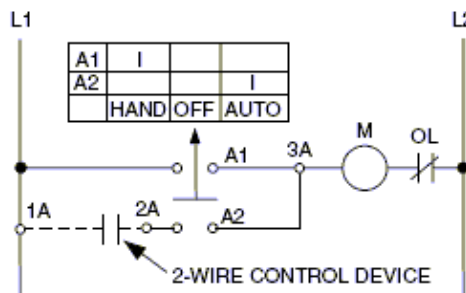

Fig. 15 Maintained Contact with Selector Switch.
3. Maintained Contact Hand-OFF-Auto Selector Switch (2-Wire Control - Fig.15)